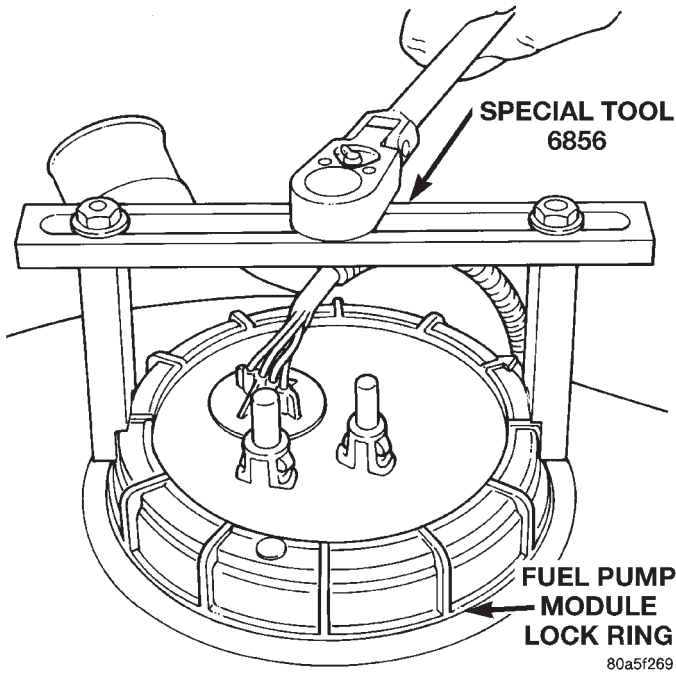

Fig. 14 Fuel Pump Module Locknut
(6) Using Special Tool #6856 Fuel Pump Module Ring Spanner, remove locknut to release pump module (Fig. 14).